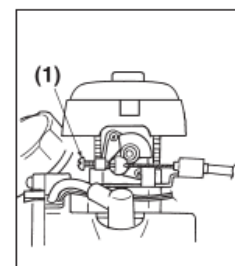

FIG. 6
1. When the engine tends to stop frequently at idling mode, turn the idle set screw clock-wise. (Fig. 6)